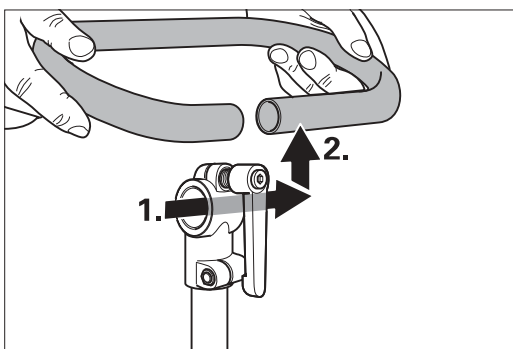

Fig. 15: Removing the handlebar.
- 2 Pull the handlebar out of the clamping piece and remove it upward (Fig. 15). Put the handlebar aside.